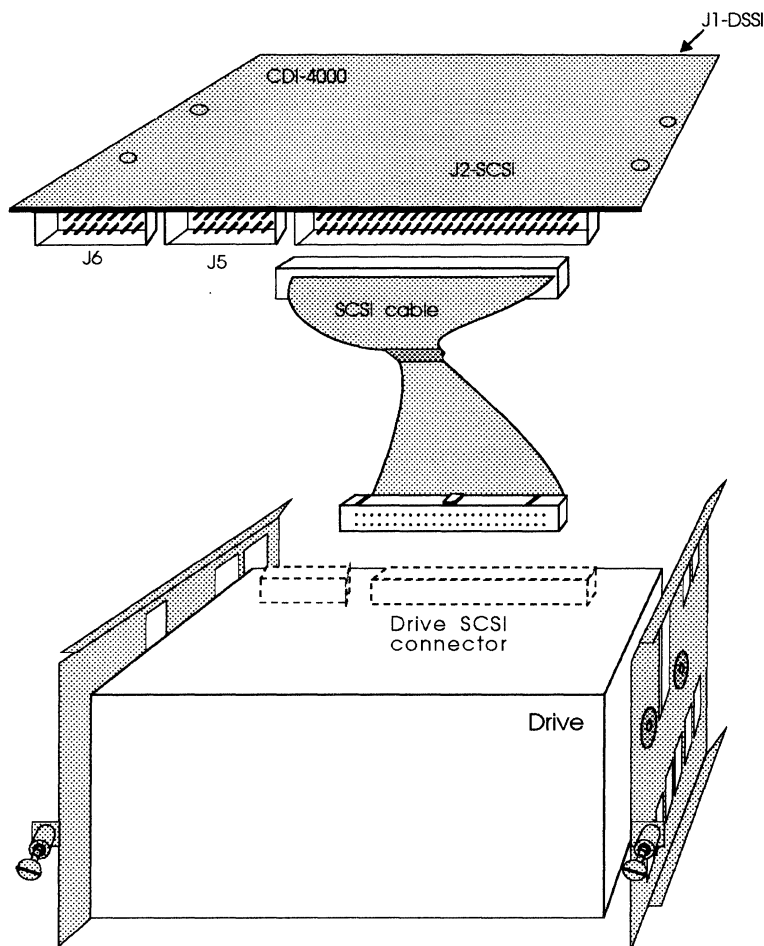

Figure 4-12: CDI-4000-SA1 SCSI cable connections
- 2 Connect tied up side of the SCSI cable to J2 of the CDI-4000 and the other end to the SCSI connector on the back of the drive (component side of CDI-4000 must face drive). See Figure 4-12 and 4-13. The flat portion of the SCSI cable will be laid between the CDI-4000 and the drive.